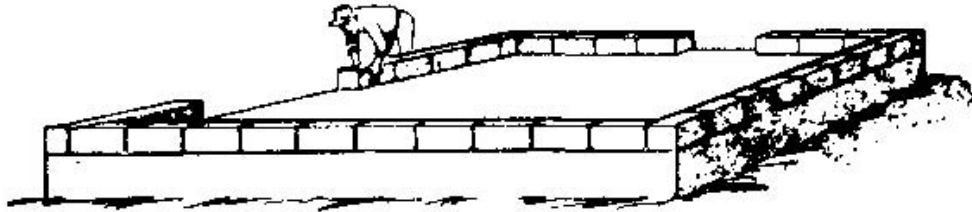

Figure 60b.
*LAYING THE BLOCKS* - After the correct mortar mix has been selected and the termite shields and door frames are in place, the blocks are ready to be laid. The usual procedure is to place the first layer of blocks around at least most of the house as shown in Figure 60b. Leave space for the mortar in the joints, but do not put it in. This step provides the correct block spacing for the remaining courses. When proper spacing has been obtained by trial the blocks are then laid with mortar.